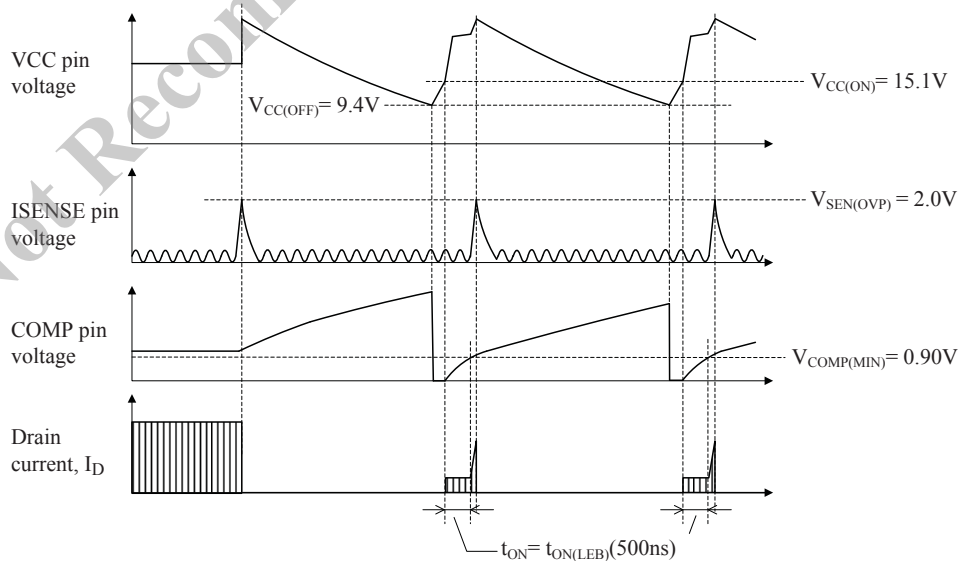

Figure 36. Waveforms when ISENSE pin OVP is being activated (LC551xD)
- ISENSE Pin Overvoltage Protection. Figure 36 shows the ISENSE pin OVP operation. When the ISENSE pin voltage with reference to the S/GND pin reaches and exceeds $V_{SEN(OVP)} = 2.0\text{ V}$ or more, OVP is activated. This input voltage must be less than the absolute maximum rating, 5V.